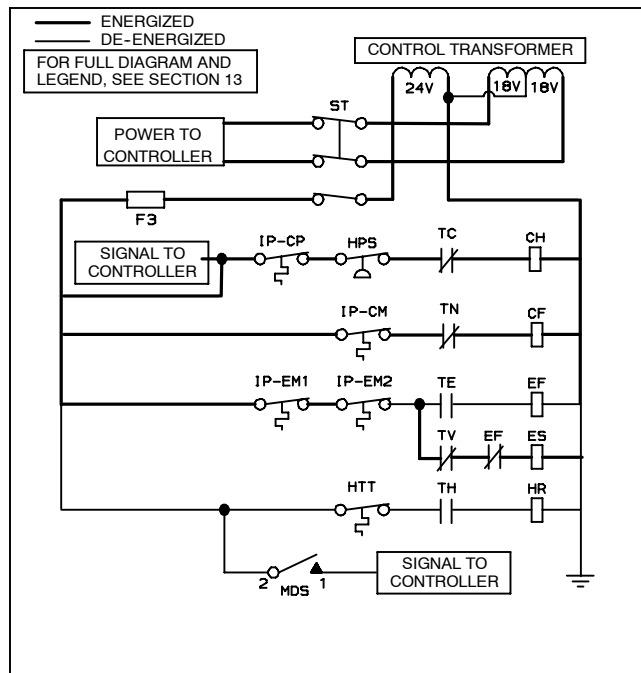

Figure 20. Frozen Mode
- a. With supply air temperature above set point and decreasing, the unit will be cooling with the condenser fan motor (CF), compressor motor (CH), evaporator fan motors (ES) energized and the COOL light illuminated. (See Figure 20.)